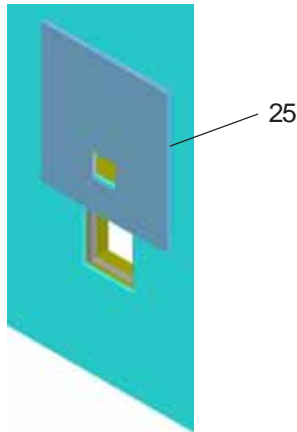

Figure 9 - Panel Installation
**Ftn. w/Wall Plate Assy.:** Place the upper edge of the panel above mounting plate on the wall. Slide the panel down until it engages the mounting plate. Be sure back panel is firmly engaged before releasing it. (See Figure 9)